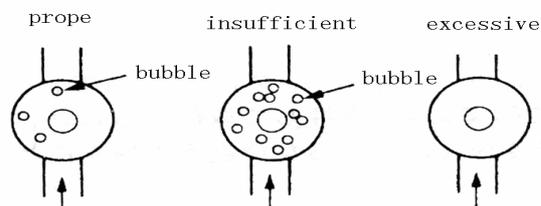

Fig. 21-3
- ① Start the engine.
- ② Turn on the A/C switch, and set the temperature selection dial to MAX COOL.
- ③ Set the engine speed to 1500r/min.
- ④ Check the refrigerant level (bubble state) through the sight glass. Refer to Fig. 21-3 and Table 21-9.
- ⑤ Charge refrigerant as insufficient, and take back refrigerant as excessive.